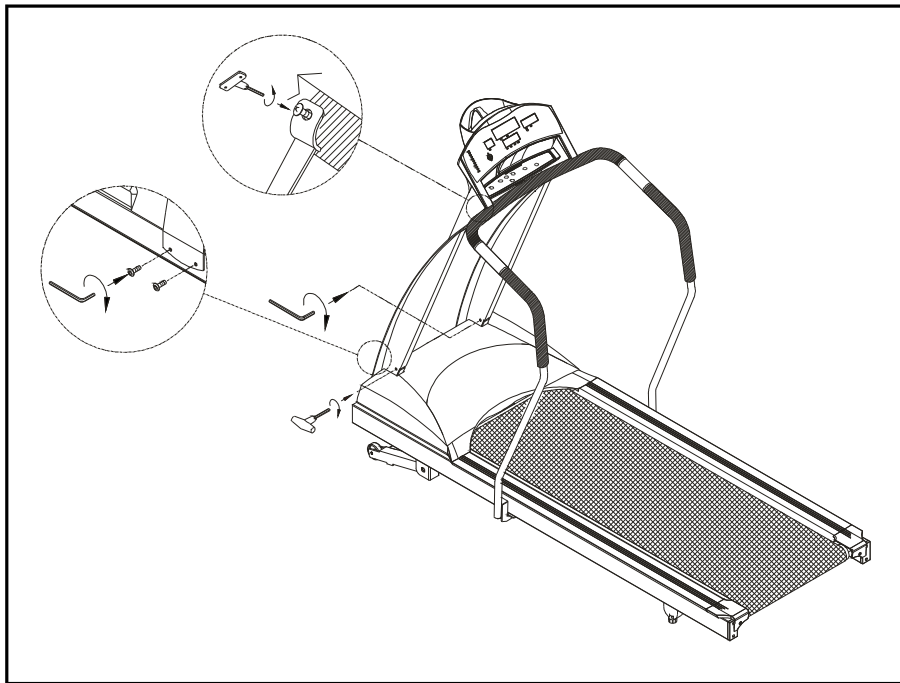

Fig.9
10. Secure the screws in front of the lift posts and handlebar tightly, Secure the screws to the lift posts tightly. (see Fig. 9)